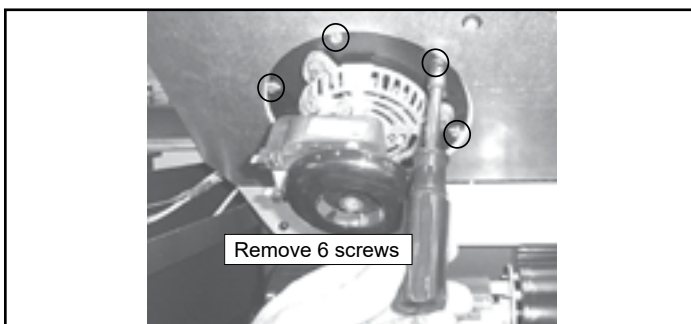

Figure 22.2
- Remove 6 screws using a flathead screwdriver or a 1/4" nut-driver. Retain screws for use on replacement blower (**Figure 22.2**).